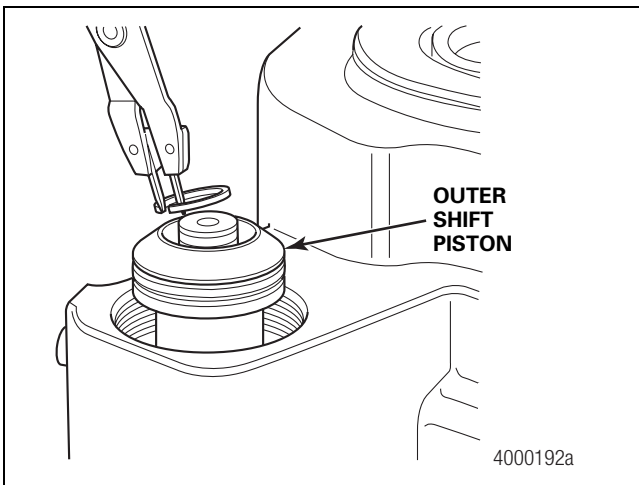

Figure 6.16
4. Install the outer shift piston outer snap ring onto the shift shaft. Figure 6.16.